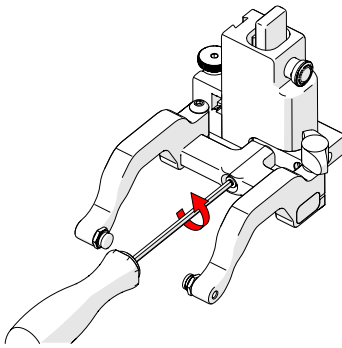

Fig. 43 - Remove yoke
1. Using the supplied 3 mm driver, unscrew the yoke (Fig. 43).
1. Remove the yoke using the supplied 3 mm hex driver (Fig. 43).